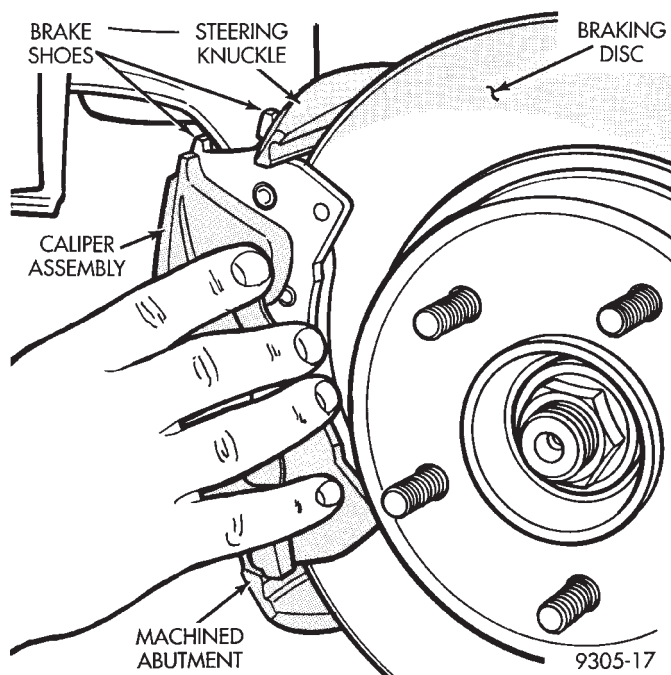

Fig. 6 Disc Brake Caliper Mounting
(4) Install front brake caliper back over braking disc and align with caliper mounting holes on steering knuckle (Fig. 6). Refer to Front Disc Brake Service in the Brake Section of this service manual for caliper installation procedure. Install the caliper adapter to steering knuckle attaching bolts and torque to 19 N•m (168 in. lbs.).